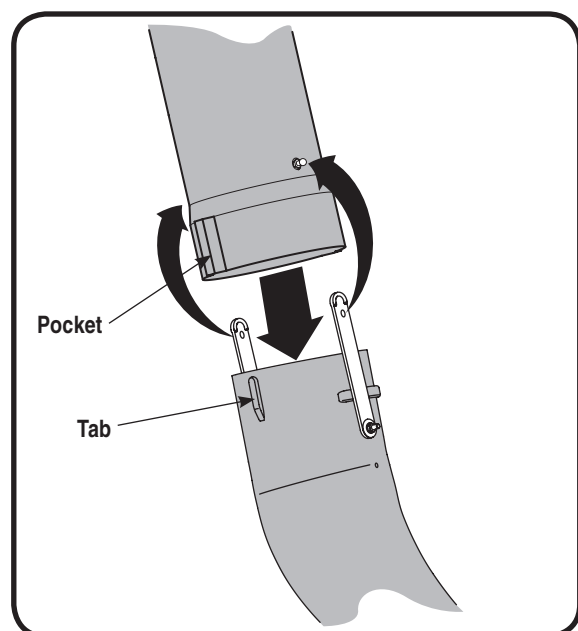

Figure 5-7
9. Place the lower end of the chute tube over the discharge chute so that the tabs on the discharge chute fits into the pockets on the chute tube. See Fig. 5-7.
10. Secure by hooking the two retainer straps of the discharge chute to the pins on the chute tube. See Fig. 5-7.